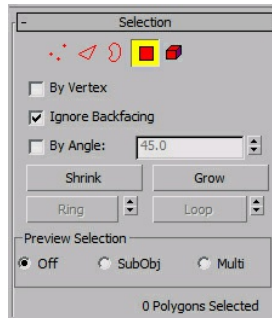

Figure 8-125 The **Ignore Backfacing** check box selected
11. In the **Selection** rollout, select the **Ignore Backfacing** check box, refer to Figure 8-125.